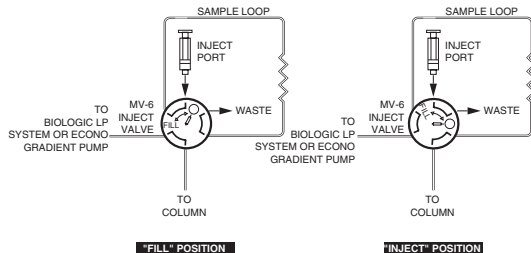

Fig. 2. Connecting to a MV-6 Valve.
2. To maximize gradient accuracy and apply samples efficiently, install 1.6 mm ID tubing from the pump to the MV-6 sample inject valve (if available). If using the MV-6 sample inject valve, turn the knob counterclockwise as far as it will go so it will correspond to the printed diagram on the valve. (Figure 2).
3. Hold the cartridge vertically with outlet in the downward direction. Connect the inlet of the cartridge to the male luer fitting on the MV-6 sample inject valve (Figure 2). If not using the MV-6 sample inject valve, connect a barb to male luer fitting on the 1.6 mm ID tubing, then connect to the top of the female luer on the Bio-Scale mini cartridge. For optimum performance, a cartridge should be mounted vertically with the arrow on the cartridge pointing downward.